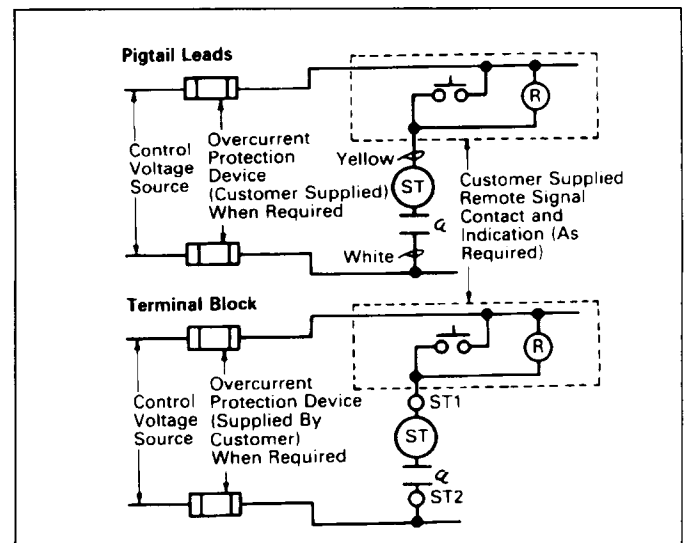

Fig. 2-8. Shunt Trip Connection Diagram
- 2-12. Connect shunt trip as required. (See Fig. 2-8.)